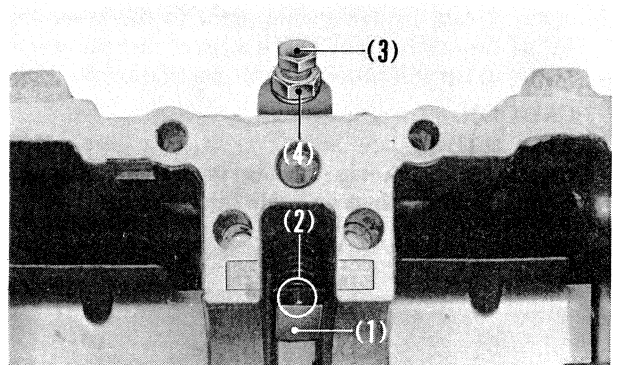

Fig. 4-78 (1) Cam chain tensioner push bar
1. First tighten the cam chain tensioner setting bolt with the tensioner push bar pushed and the mark facing as shown in Fig. 4-78.